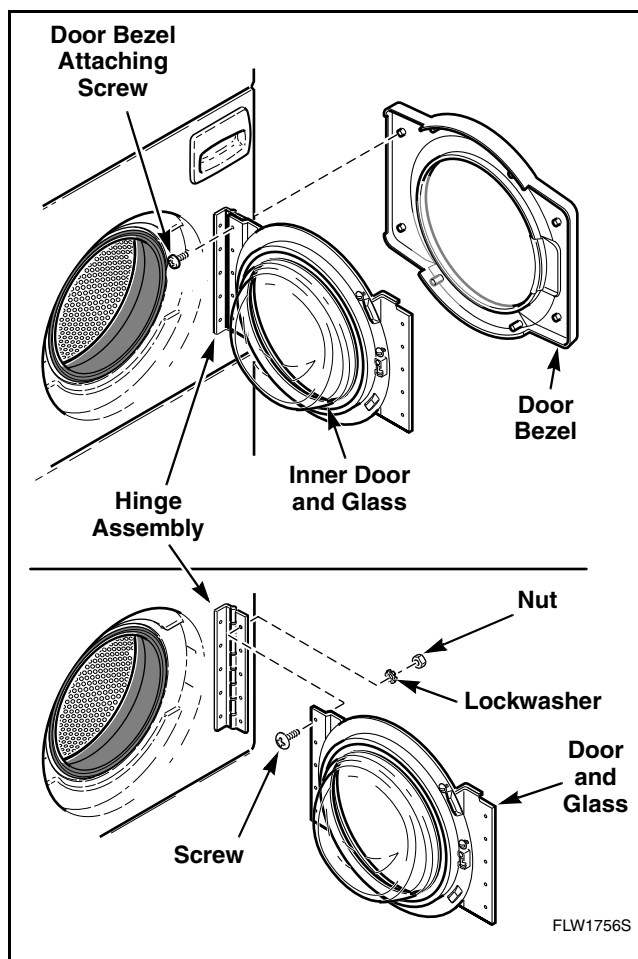

Figure 19
- Remove door bezel by removing screws attaching it to door. Refer to *Figure 19*.
- While supporting loading door, remove screws, lockwashers and nuts holding loading door to hinge assembly and remove door. Refer to *Figure 19*.